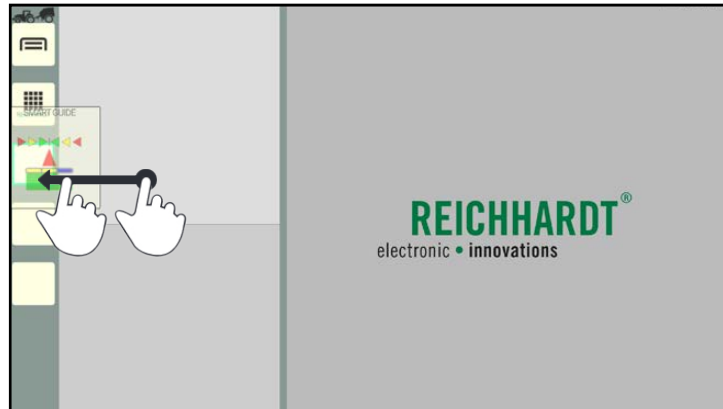

Fig. 63: Dragging the application to an assignable button and letting go
3. Drag the application on to an assignable button on the sidebar (see Fig. 63).